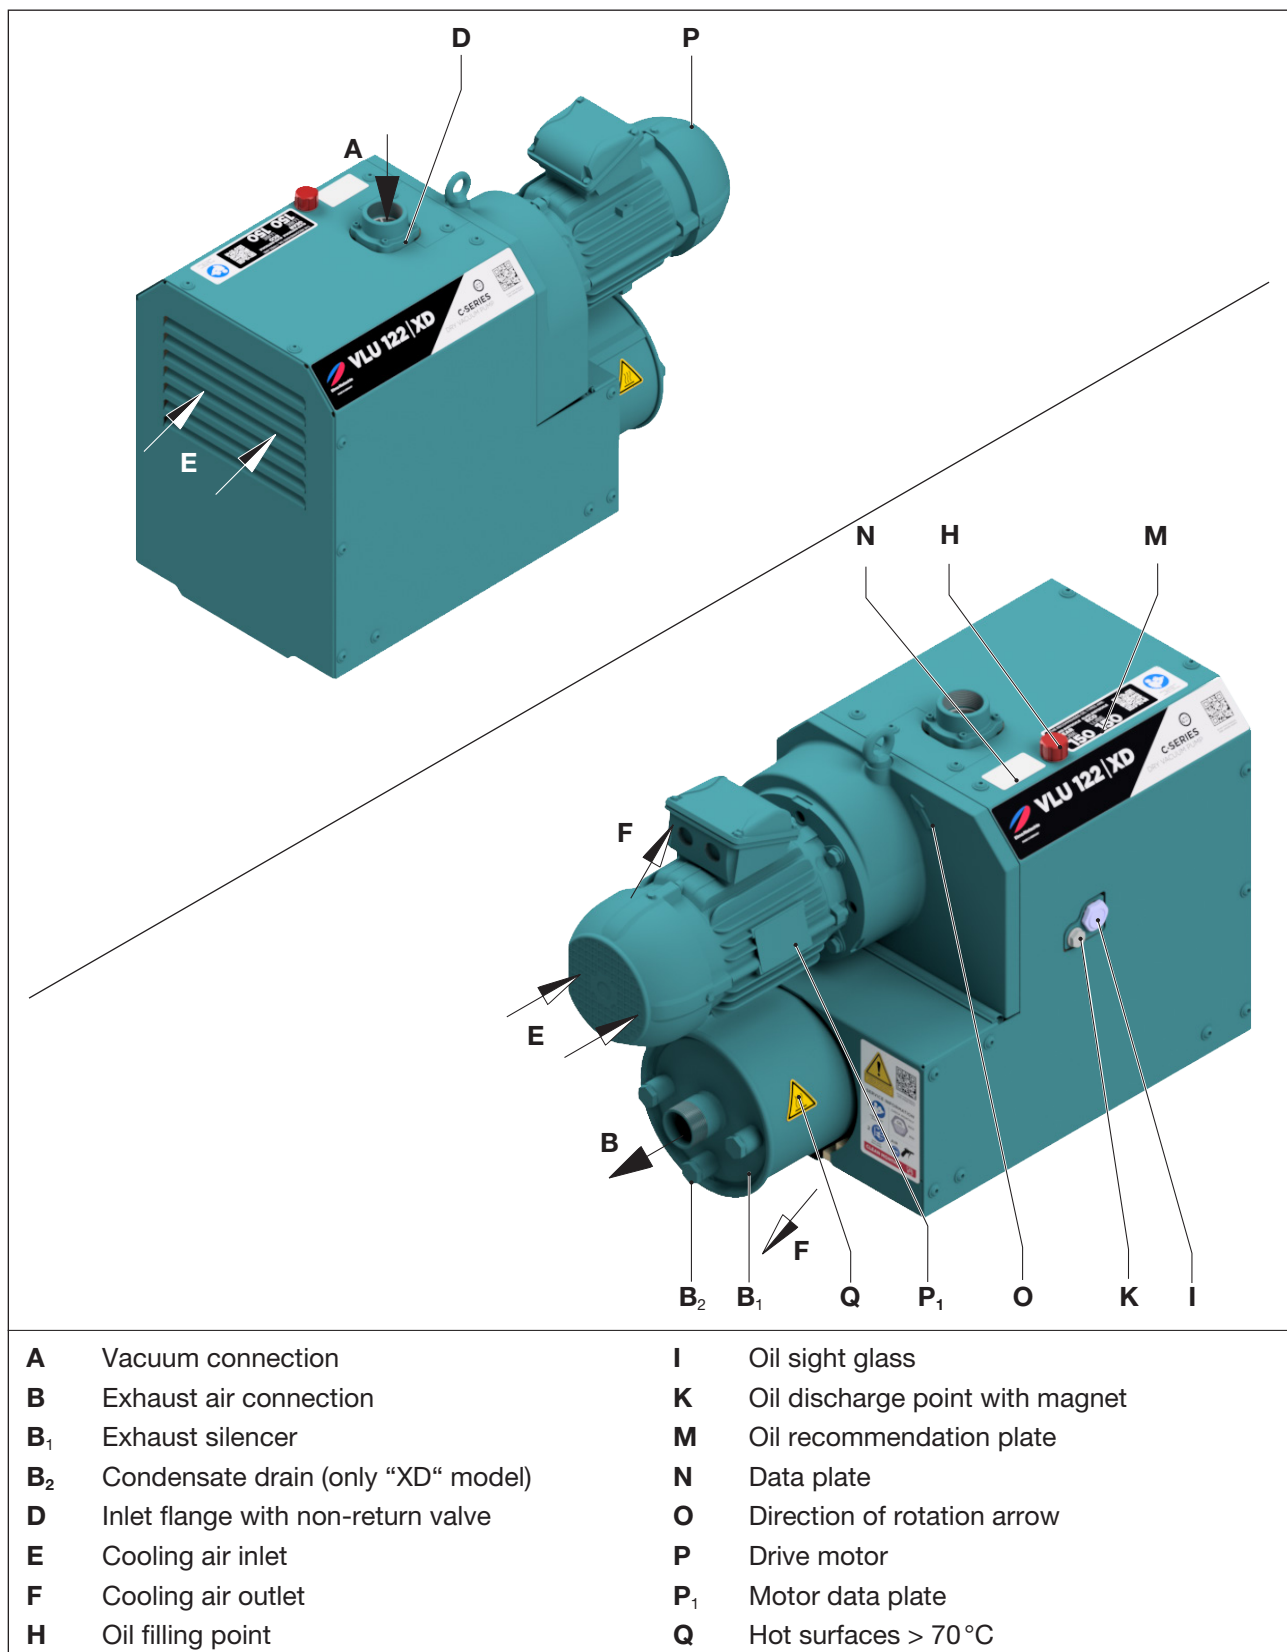

Fig. 2 Vacuum pumps C-VLU 122 XD (The models 62 as well as variant CD are built in the same way)
The C-VLU 62 | 122 have a connection flange on the inlet side and an exhaust silencer (Fig. 2/B₁) on the pressure side. The intake air is cleaned by a mesh filter. An integral non-return valve prevents the evacuated system from being ventilated after the pump has stopped.
The C-VLU 62 | 122 are enclosed in an insulation hood. In order to dissipate compression heat, the cooling air is sucked through between the compressor and the hood using a drum fan that sucks in the fresh cooling air (Fig. 2/E) and discharges the heated air out of the cooling air outlet (Fig. 2/F). It is driven via a coupling by a flanged, three-phase standard motor.
- Oil filling point (Fig. 2/H), oil sight glasses (Fig. 2/I) and oil drain (Fig. 2/K) must easily be accessible.
- Remove the blind plug/adhesive film on the vacuum connection (Fig. 2/A) and exhaust air outlet (Fig. 2/B).
- Connect the pipes with the vacuum connection (Fig. 2/A).
- The exhausted air can be blown out through the exhaust air outlet (Fig. 2/B) on the exhaust silencer (Fig. 2/B₁) or led away using a hose or pipeline.
- Check the lubricating oil level at the oil sight glass (Fig. 2/I) and top up if necessary.